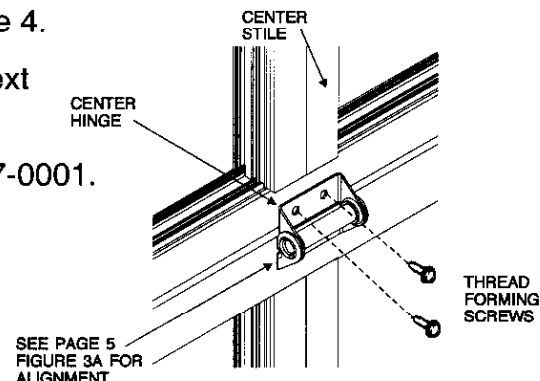

Figure 10
5. Attach upper half of center and end hinges to bottom of next highest section. See Figure 10.